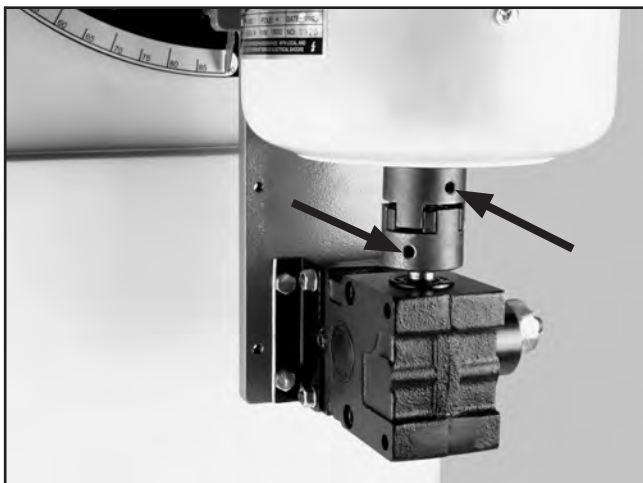

Figure 32. Spindle connector set screws.
2. Tighten set screws shown in **Figure 32**.